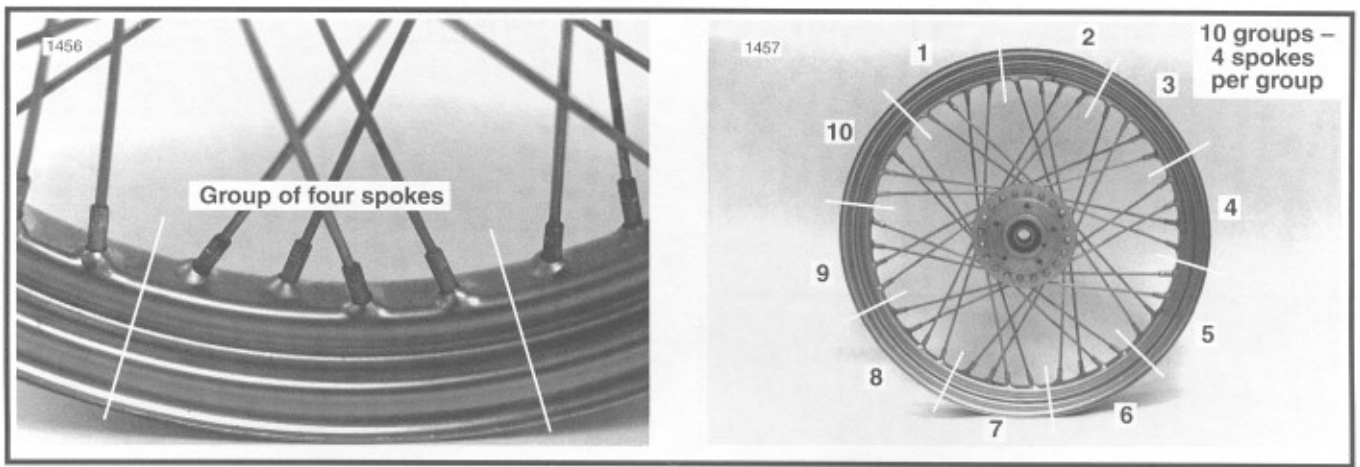

Figure 2-26. Grouping the Spokes
8. See Figure 2-26. The rim is divided into ten groups of spoke holes, four holes to a group. Each group has two holes on the left and two holes on the right, angled inward towards each other. Only one hole in each group will be angled toward the bottom flange inner spoke (long-head). Lace all bottom flange inner spokes into these holes. Secure each spoke with a nipple screwed on the end about three turns.